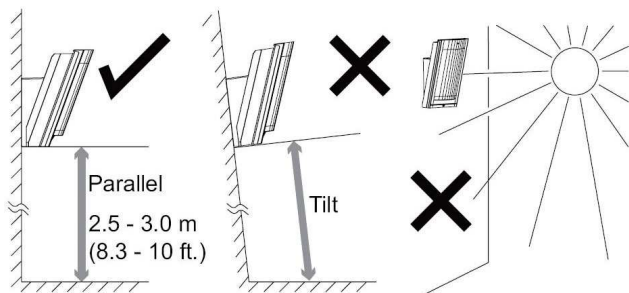

Figure 1
- The detector must be installed in a position where its bottom surface is parallel to the watched zone (either directly on the wall, or possibly, if a change of direction is required, the supplied joint can be used). This condition is essential for good immunity to false alarms. For more information see Figure 1.